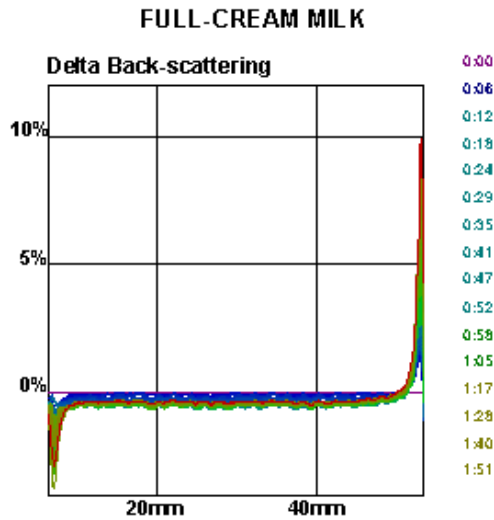

Figure 1
- × a backscattering decrease at the bottom of both samples (*Figure 1* and *2*), which is characteristic of a decrease of the concentration of dispersed particle in this area (clarification).
- × a backscattering increase at the top of both samples (*Figure 1* and *2*), which is significant of a layer formation of fat droplets (creaming).